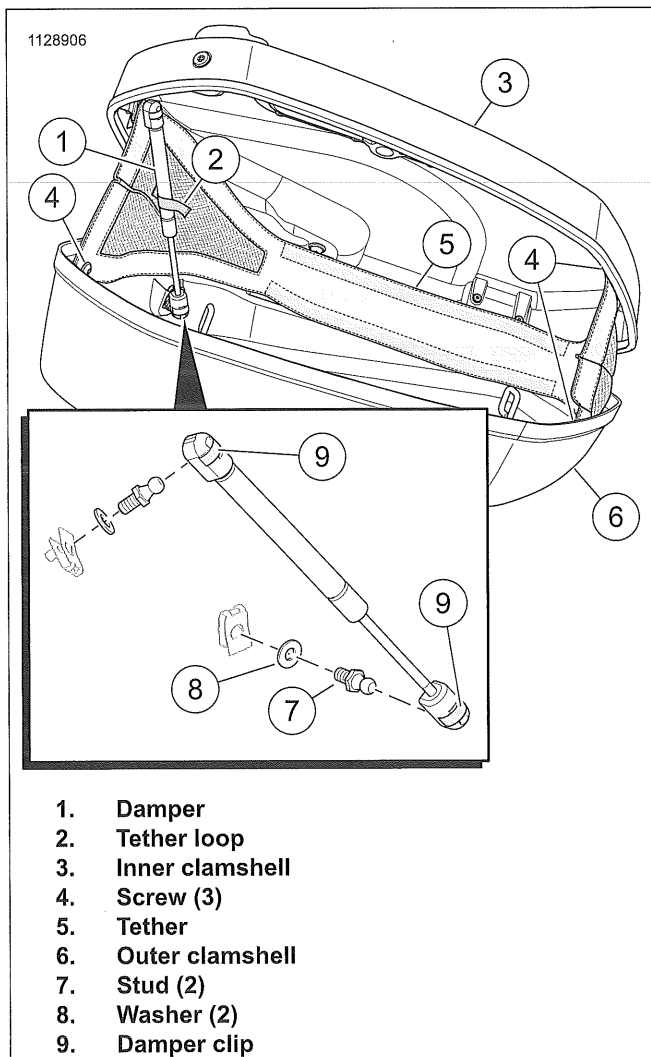

Figure 3-158. Saddlebag Tether
- e. See Figure 3-158. Place tether (5) in position.
- f. Apply threadlock to screws (4).